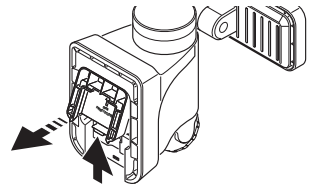

Figure 4
3. Press up on the battery compartment cover locking tab and swing the cover out and down to remove (see Figure 4).